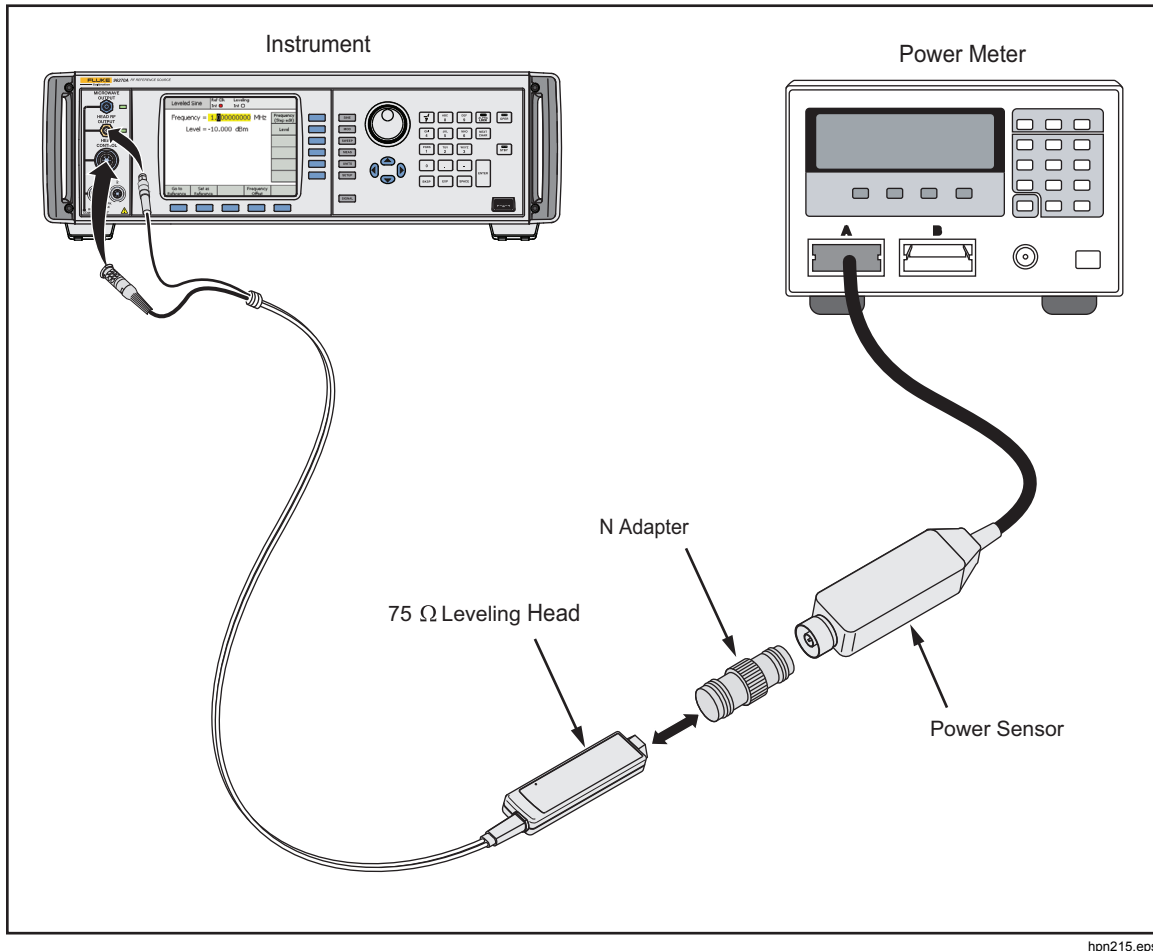

Figure 3-11. Equipment Connections- 75 Ω Leveling Head, High Frequency Level Accuracy Test Points (96040A and 96270A)
8. Connect the 75 Ω Leveling Head to the 75 Ω Power Sensor via a precision 75 Ω Type-N female-to-female adapter. See Figure 3-11 for equipment connections.